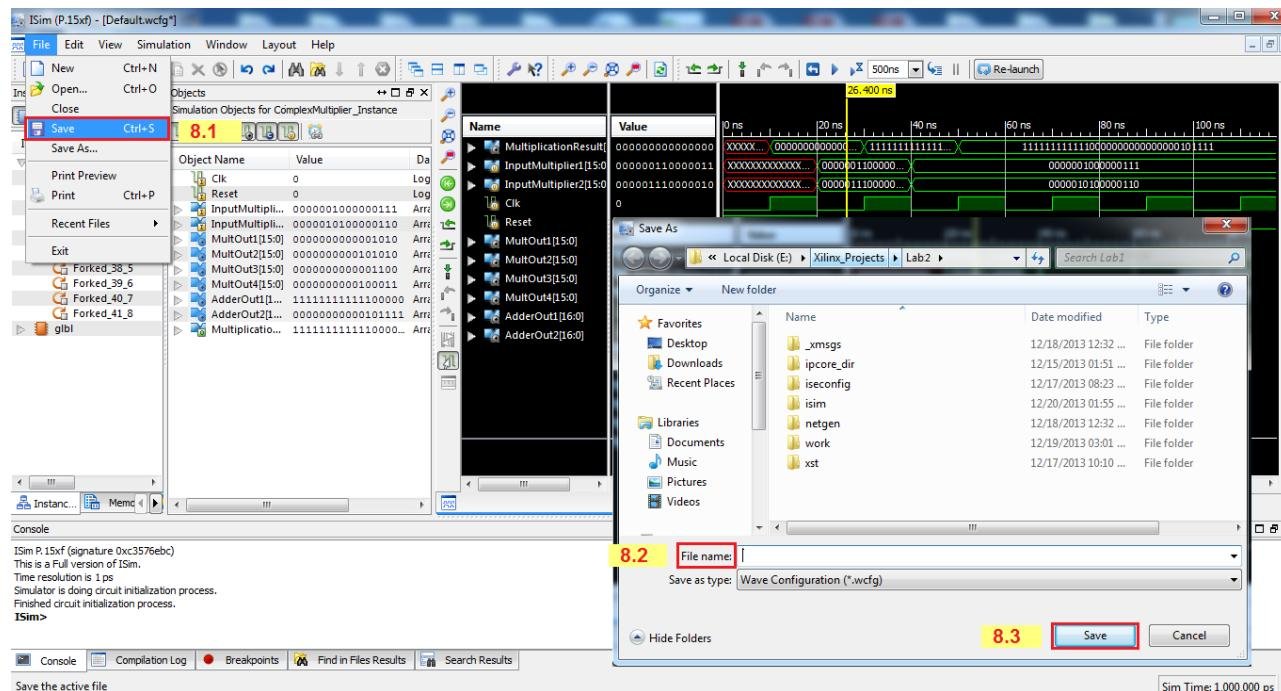

Figure 24.
8. Saving the Simulation (Figure 24)